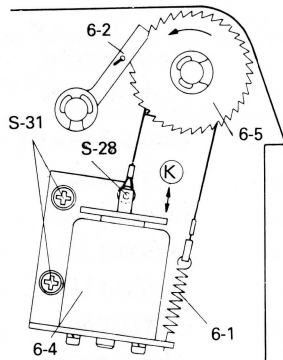

Figure 27
- While pushing down part (K) of 6-4, fix 6-4 with S-31 at the position where 6-2 falls from a tooth top of 6-5. The screw S-28 should be set in the direction shown in figure 27.
- While pressing down part (K) of 6-4, fix 6-9 with S-32 at the position where part (T) of 6-9 and part (T) of 6-7 are coupled thereby stopping the revolution of 6-7.
- Confirm line-feed functions by pressing part (K) for at least two complete rotations of 6-5.